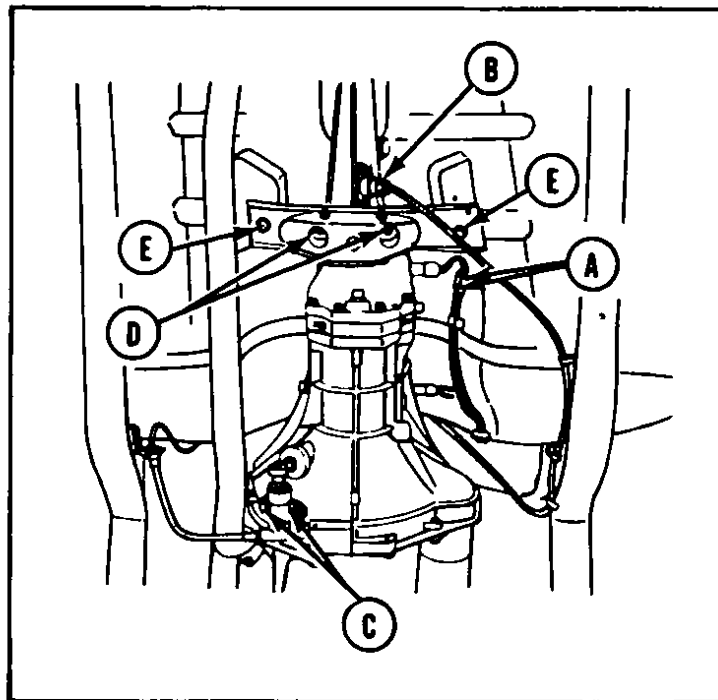

Fig 143 Transmission – Model B210
- 7 Disconnect wires "A" from the reverse lamp switch, Fig 143
- 9 Disconnect speedometer cable "B" Fig 143
- 11 Remove the clutch operating cylinder "C" from transmission case, Fig 143
- 14 Remove the rear engine securing bolts "D" and crossmember mounting bolts "E" Fig 143